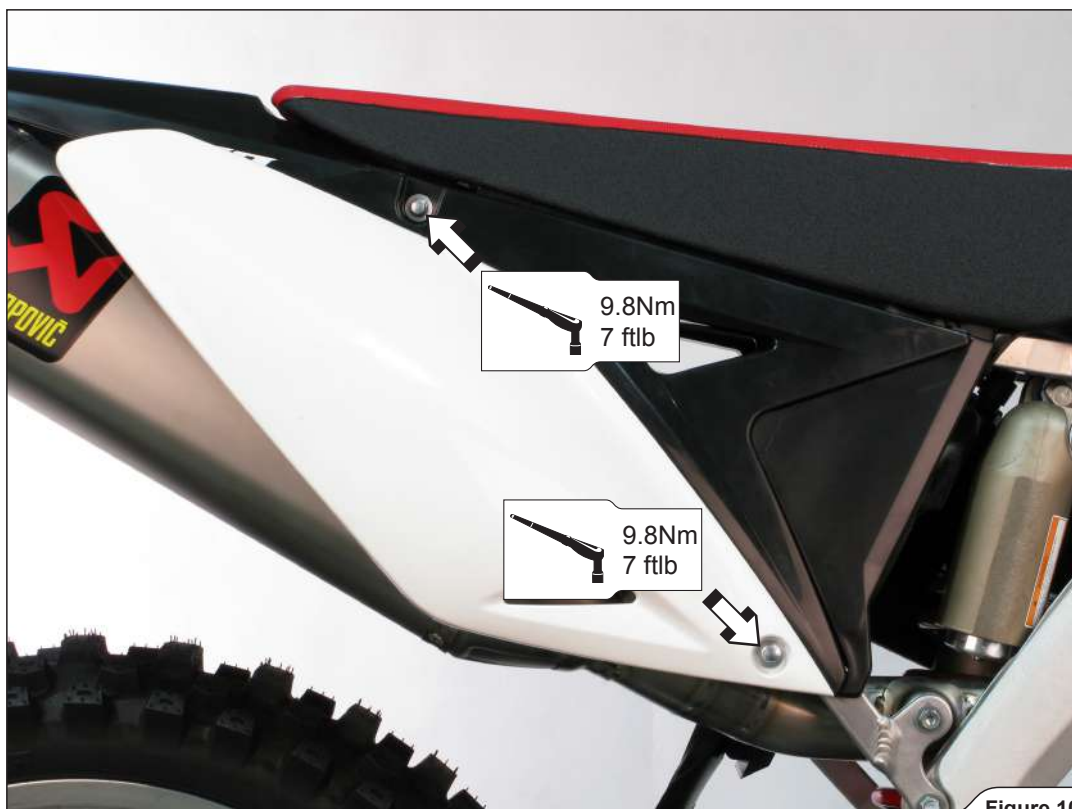

Figure 10
5. Reattach the right side panel and tighten the marked bolts to a specified torques (**Figure 10**).